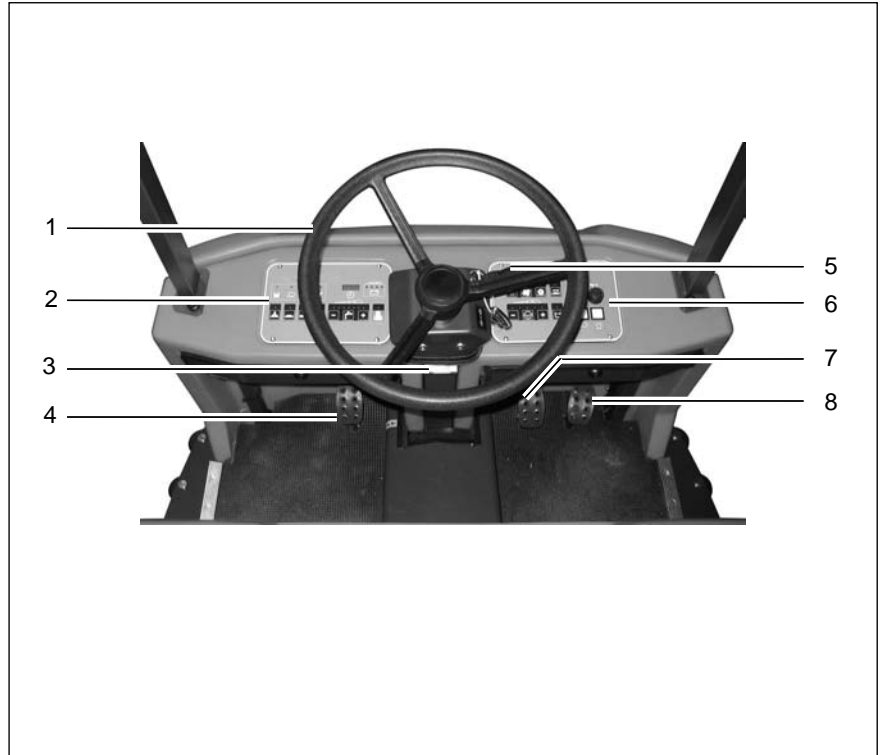
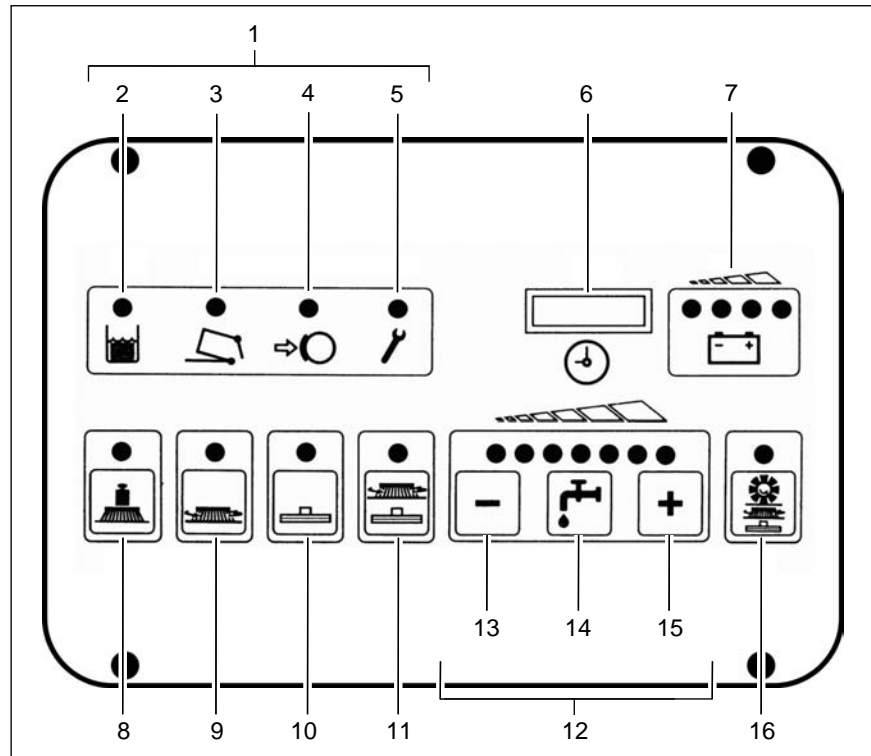

Fig. 20
Fig. 21
- fresh water supply“ (Fig. 21/12).
- Press the squeegee and suction turbine button (Fig. 21/10) to switch the suction turbine on or off.
(Fig. 20/1)
(Fig. 20/2)
(Fig. 20/3)
(Fig. 20/4)
- When the parking brake is applied, the corresponding control lamp on the operating panel (Fig. 21/4) lights up red.
Before getting out of the vehicle apply the parking brake, set the driving direction switch (Fig. 20/5) to its neutral position and switch the key switch to off.
(Fig. 20/5)
Right-hand operating panel (Fig. 20/6)
Service brake (Fig. 20/7)
Accelerator to drive forwards and backwards (Fig. 20/8)
- Before actuating the accelerator, use the driving direction switch (Fig. 20/5) to set the direction of travel: forwards or reverse.
- To stop securely, apply the service brake (Fig. 20/7).
An acoustic warning signal (buzzer) is issued should the drive motor overload. At the same time, the red alarm lamp (Fig. 20/5) lights up in the left-hand operating panel (Fig. 21/2) and the driving speed is reduced by approx. 50%. In addition, an error code appears in the service indicator (Fig. 21/6).
(Fig. 21)
(Fig. 21/1) The indicator field enables the scrubber-drier to provide feedback on the operating status of the vehicle. This only relates to operating states which cannot be switched on and off via the operating panel: recovery tank full, dirt hopper for pre-sweep/vacuum unit full, parking brake applied and error message.
(Fig. 21/2) The yellow control lamp lights up when the recovery tank has reached its maximum fill level. Also, a "beep" signal is issued every 15 seconds. In this case, a float switch switches the suction turbine off and the squeegee is raised.
(Fig. 21/3) The control lamp lights up red when the dirt hopper is not properly inserted (engaged) or the front flap is not properly closed.
(Fig. 21/4) The control lamp lights up red when the parking brake has been actuated via the pedal to the left of the steering column. If the traction drive is switched on, an acoustic signal is also issued.
(Fig. 21/5)
At the same time, a four-digit code appears in the display of the service indicator (Fig. 21/6). This error code infers which fault has occurred (refer to Section 3.5.1). At the same time, the control lamps flash and an acoustic signal is issued.
(Fig. 21/6) The four-digit LED serves to display the operating hours.
(Fig. 21/6) The four-digit LED serves for a more accurate determination of function faults. If a
Battery and charge control indicator (Fig. 21/7)
Button for brush pressure (Fig. 21/8) This button is used to increase the brush pressure. This may be necessary when the area to be cleaned is extremely dirty.
Button for the brush drive (Fig. 21/9) This button serves to switch the brushes and fresh water supply on and off with simultaneous, respective lowering and
(Fig. 21/10) This button serves to switch the suction turbine on and off with simultaneous lowering and
(Fig. 21/11) After pressing
(Fig. 21/12) The